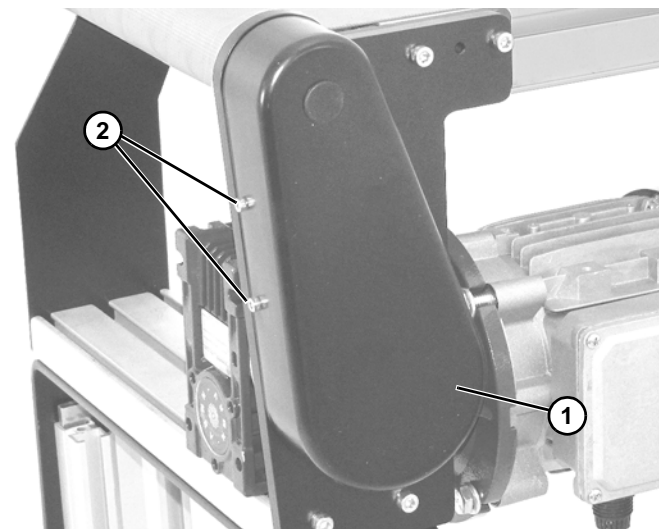

Figure 24
1. Remove four (4) screws (Figure 24, item 2) and remove cover (Figure 24, item 1).